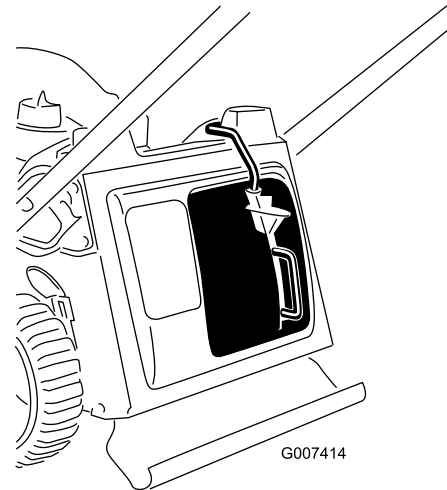

Figure 11
3. Release the button on the lever and ensure that the top of the lever lies fully in the switch channel (Figure 11). **If the top of the lever is not in the switch channel, your machine will not start.**